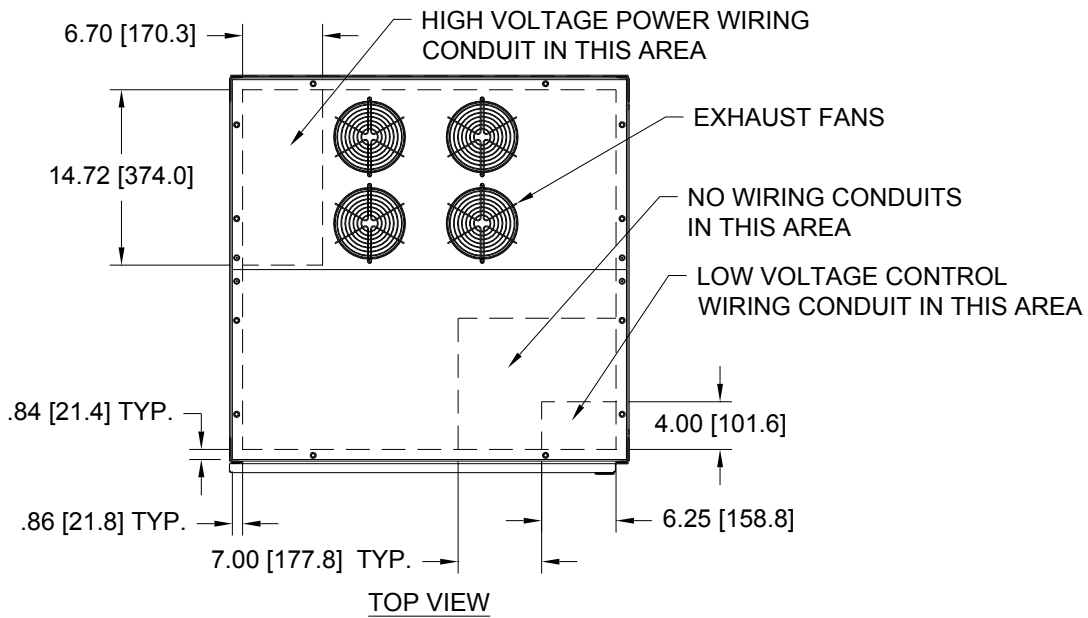

Figure 5 - Cabinet Top Conduit Locations
2. Plan the location of conduits. Conduit landing plates are provided at the top, rear, and bottom of the cabinet. As noted, there are four sets of power connections. If the MBS arrangement is included, one set of control connections will also exist. The low voltage control connection must be routed through the top front cover of the cabinet, seven (7) inches (178 mm) minimum from the power wiring to ensure physical separation between them and the power wiring. The power wiring may enter the cabinet through the top rear cover, the rear or bottom plates. See **Figure 5**.